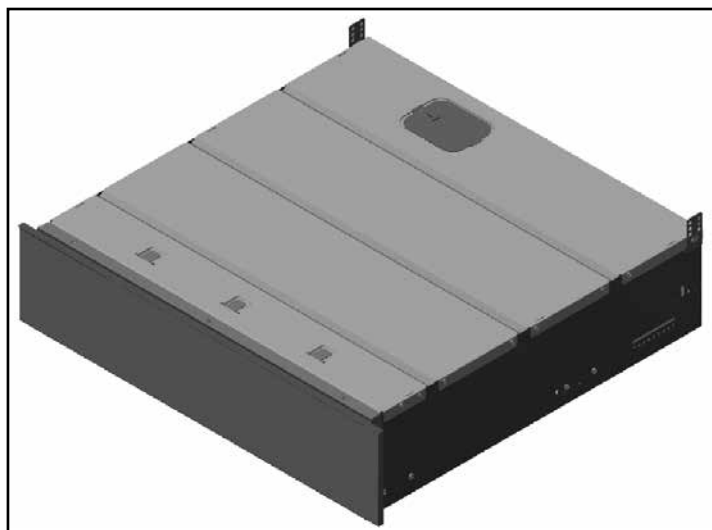

Fig. 1
- No. 1 packaging machine (**Fig. 1**).